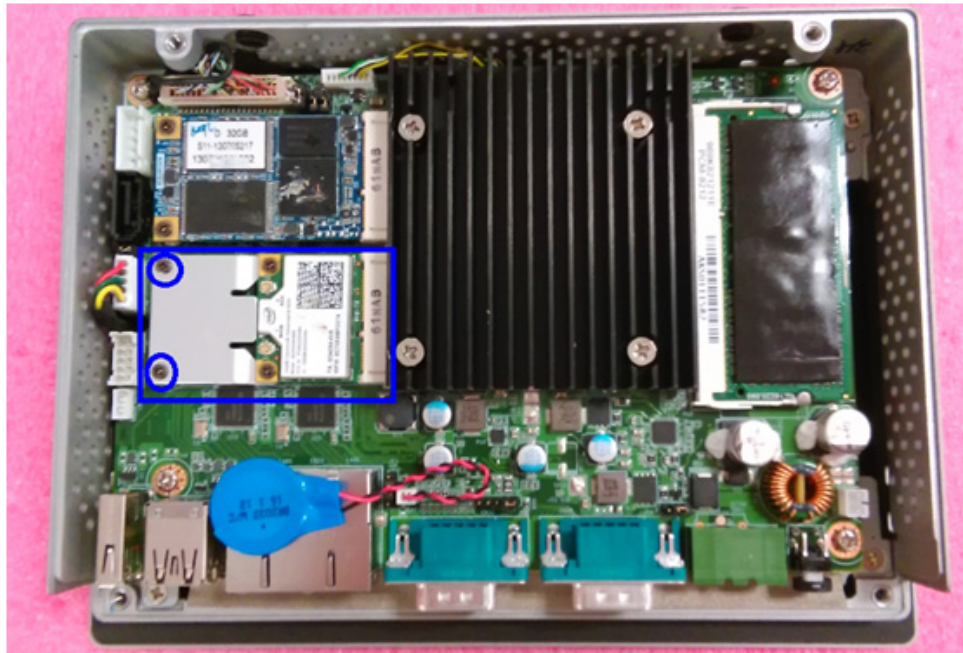

Figure 2.15 Install Full-size Wireless LAN Card
1. Insert the Mini PCIe full-size card into socket, and secure the card with the two retention screws in the accessory box. (See Figure 2.15)